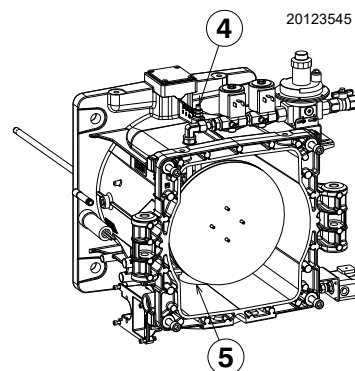

Fig. 29
allows to identify the power delivered by the burner based on the pressure measured at the test point 4)(Fig. 29).
Gas pressure measured at the test point 4)(Fig. 29), with:
- subtract the combustion chamber pressure from the gas pressure measured at test point 4)(Fig. 29).
Gas pressure at test point 4)(Fig. 29) = 9 mbar